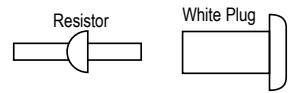

Figure 17
5. Slip the plastic restrictor into the white plastic plug, tapered end out (Figure 17) to form the plug assembly.